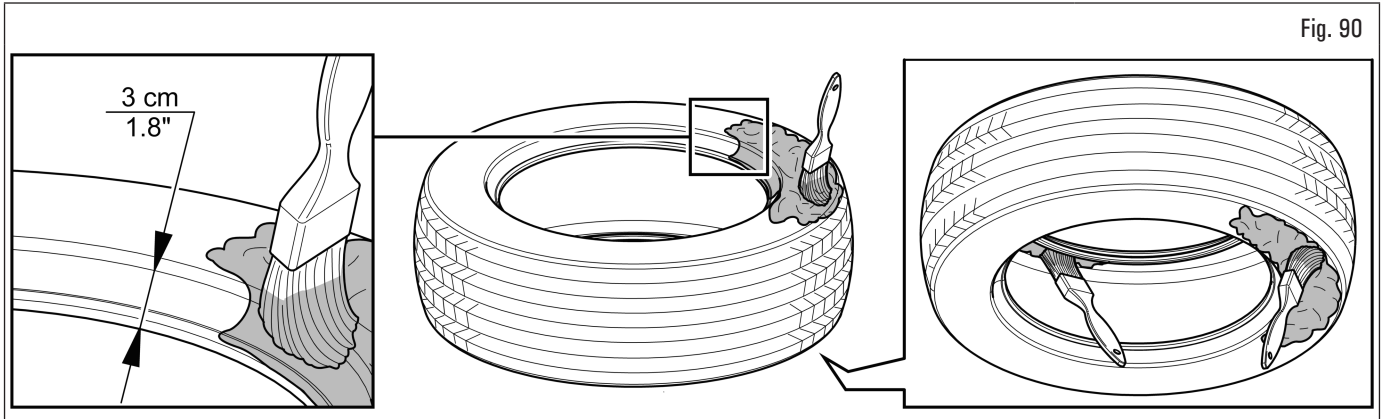

Fig. 90
1. abundantly grease the tyre, which must be mounted, on both beads and on the upper side, both on the outside and, for at least 3 cm (1.18") from the bead, on the inside (Fig. 90);